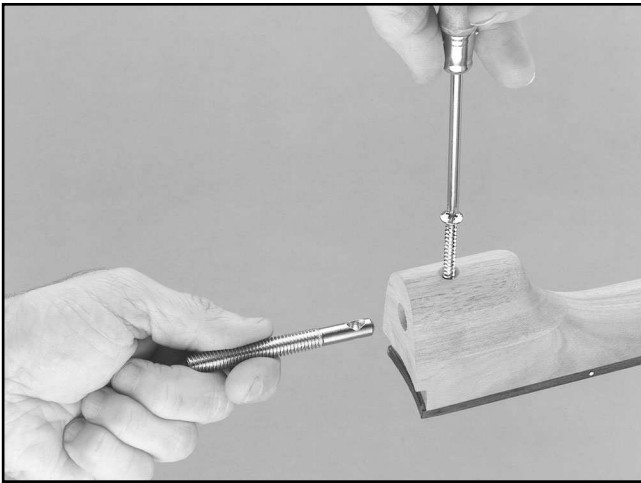

Figure 9. Installing the coordinator bolt.
2. Thread the #10 X 2 tap screw into the neck and through the coordinator bolt as shown in **Figure 9**.